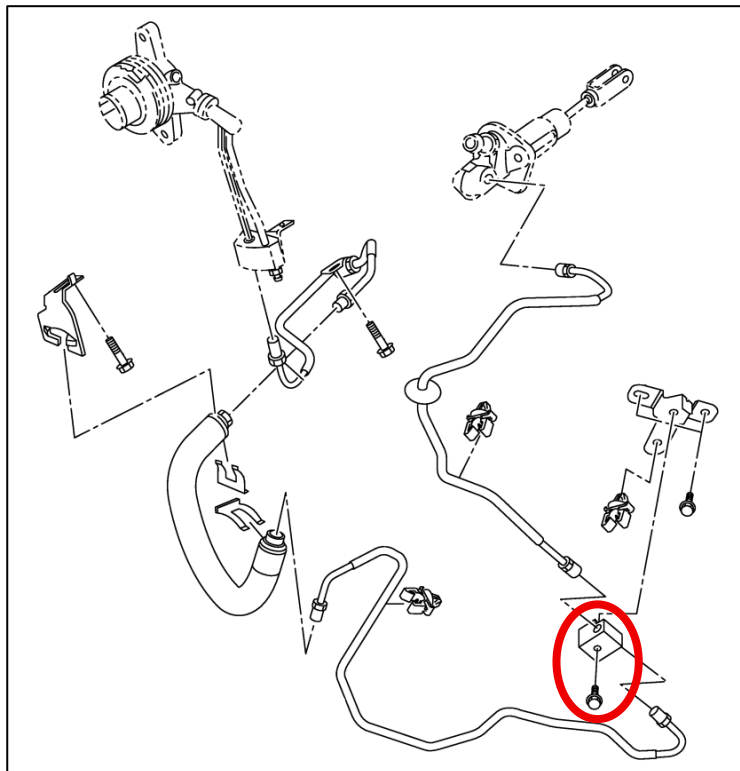

Figure 6
9. Unbolt the Connection Block from the OE Bracket and remove it from the vehicle. *Figure 6.*